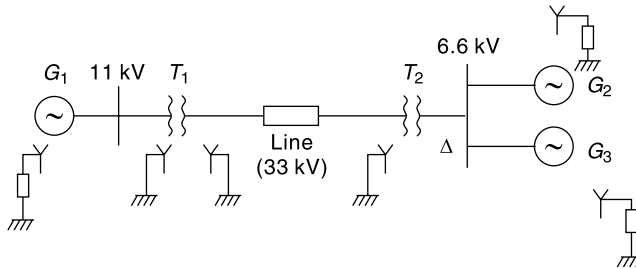

Fig. 1.3 A sample power system
1.2 A sample 3-phase power system is displayed in Fig. 1.3. The component ratings are as shown in Table 1.3.